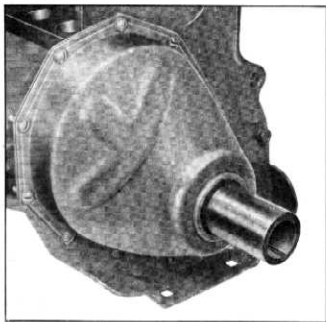

Fig. 34—Timing Gear Cover Installation
3. Coat the leather oil seal with light grease and using a new cover gasket install cover and gasket over centering gauge (fig. 34).